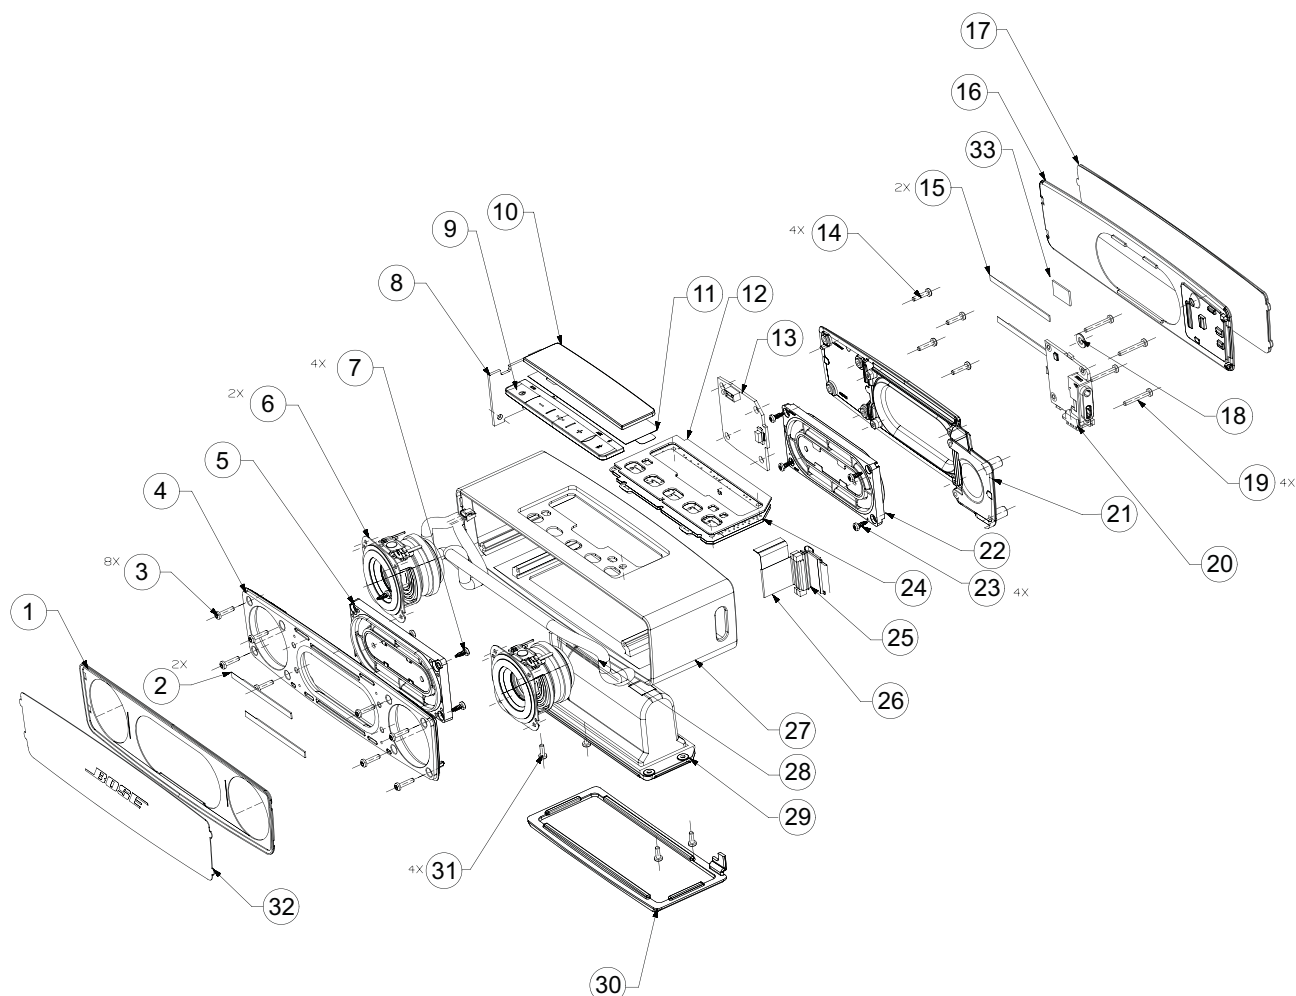

Figure 2. SoundLink Mini II Main Assembly, Exploded View
(See Figure 2)
*The replacement foot/battery cover does not have a serial number printed on it. Print the serial number on a small label and install on the unit above the foot. See Figure 2 on next page.